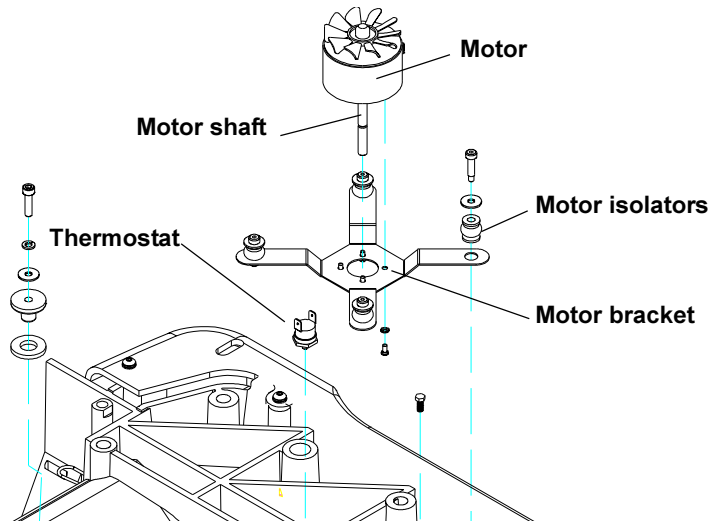

Figure 5-21
5.62 Incubator fan/motor/optical sensor (Figure 5-21 and 5-22)